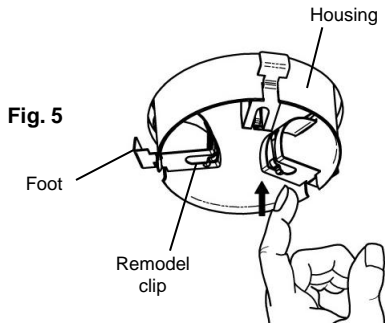

Fig. 5
2. When the "foot" of each remodel clip touches the ceiling, push the remodel clip through the "I" shaped opening. (Fig. 5)